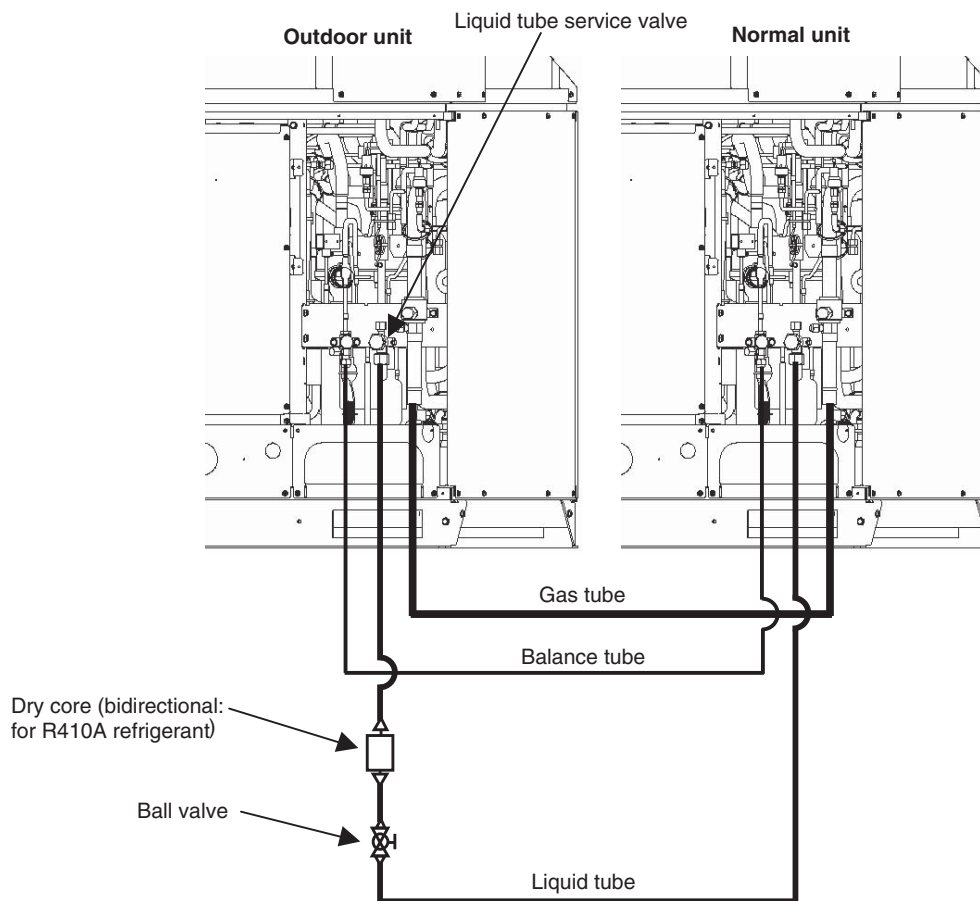

Fig. 21
(5) As shown in Fig. 21, disconnect the tube that runs from the liquid tube valve to the ball valve on all outdoor units where dry cores will be attached. Then attach the dry cores.
(6) At all outdoor units where dry cores are attached, pressurize with 478.6 psi of nitrogen from the liquid tube service port and check for leaks.
(7) After evacuating all nitrogen gas from the tubing, apply vacuum from the liquid tube service port to all outdoor units where dry cores are attached until the pressure is -14.7 psig (5 Torr) or less.
(8) Fully open the liquid tube valve and ball valve on all outdoor units where dry cores are attached.
(9) Operate all outdoor units for approximately 3 hours (in either Heating or Cooling mode or mixed Cooling and Heating mode).
(10) Follow the above procedure, and replace all dry cores with new dry cores.
(11) Operate all outdoor units for approximately 20 minutes (in either Heating or Cooling mode or mixed Cooling and Heating mode).
(12) Follow the instructions in “3. Discharging Compressor Oil” and drain a small amount of the oil from the oil separators of all outdoor units where dry cores are attached. Check the color phase, odor, and other characteristics.
(13) If the results show that dry core cleaning is still necessary (for example, a color phase of 4.0 or higher)*, return to Step 11 and repeat until the results are normal (including a color phase of 3.5 or less)*.
- (1) Refer to “5-2-3. Refrigerant recovery procedures (2) : Indoor unit with no ball valve equipped.” Perform pump down of the refrigerant from all indoor units and inter-unit tubing to the outdoor unit side.
- (2) Cut the liquid (narrow) tube at all outdoor units where dry cores will be attached, then attach the dry cores and ball valves as shown in Fig. 21.
- (3) For the next steps, refer to (6) – (17) in **(A)** on the previous page.